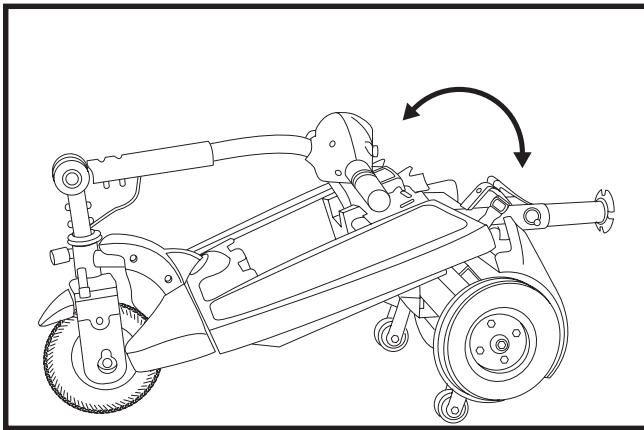

Figure 23. Frame Positioning
1. Push back on the seat post to pivot the rear section rearward until it is standing vertically on its end. See figure 23.
3. Holding the seat post, slowly pivot the rear section forward until the curved locking brackets are fully connected onto the top rear pegs. See figure 23.